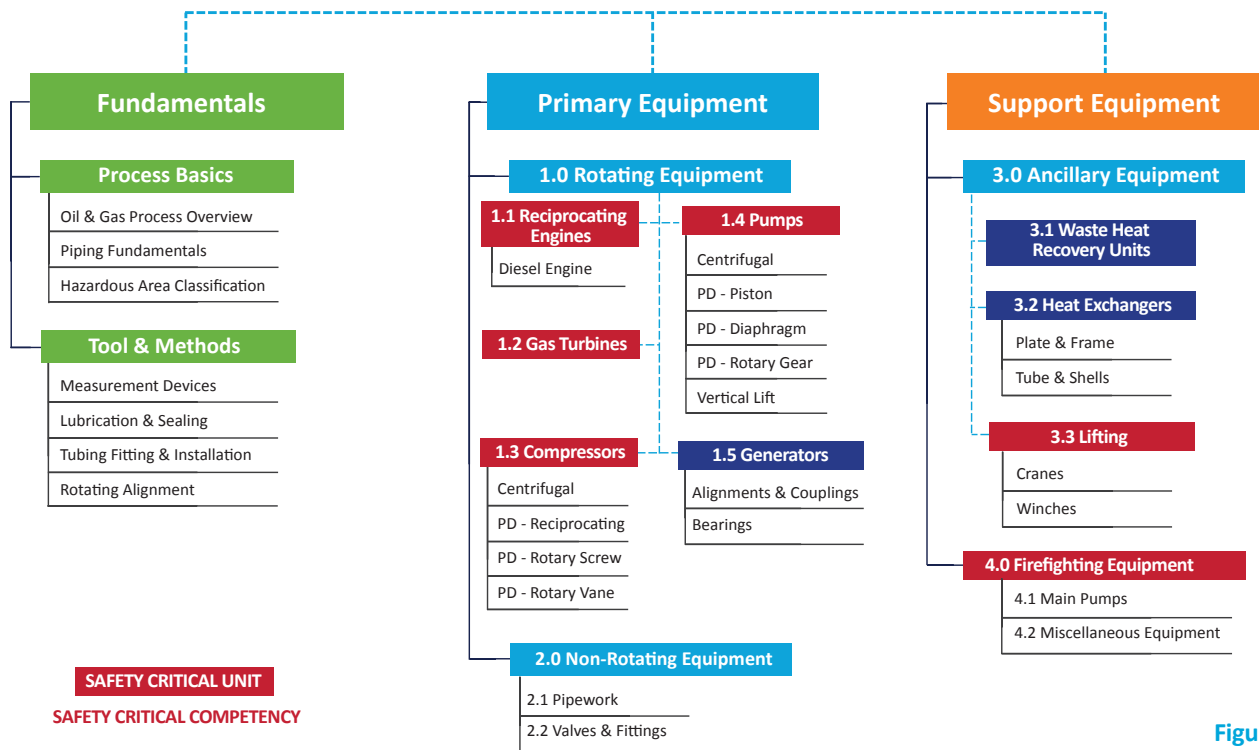

Figure 1
**Figure 1** depicts a typical **Competency Profile Diagram** for a Mechanic. These diagrams present a high-level view of all the competency units required for a given discipline or role. This first level breakdown can help you ensure that all the functions for a role have been identified. Each block on the diagram represents a “unit” that will include multiple competency “elements” as the role is broken down. Profile diagrams are very useful for verifying and discussing competencies with Subject Matter Experts (SMEs) since they provide a clear view of the scope of competencies without presenting too much detail. Presenting an excess of detail too early in the process can slow down the analysis as SMEs may begin to focus on task elements before defining the overall structure. Just imagine trying to determine the proper type and quantity of nails and screws required before the house is even designed. Use the profiles to visualize each discipline competency set.